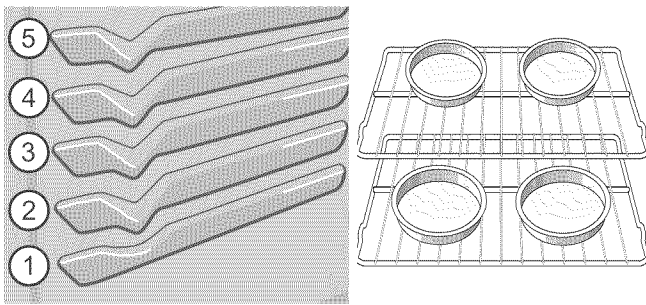

Figure 18: Convection rack positions and pan spacing
- For best results when baking cakes using 2 oven racks, place racks in positions 2 and 4 (Figure 18).